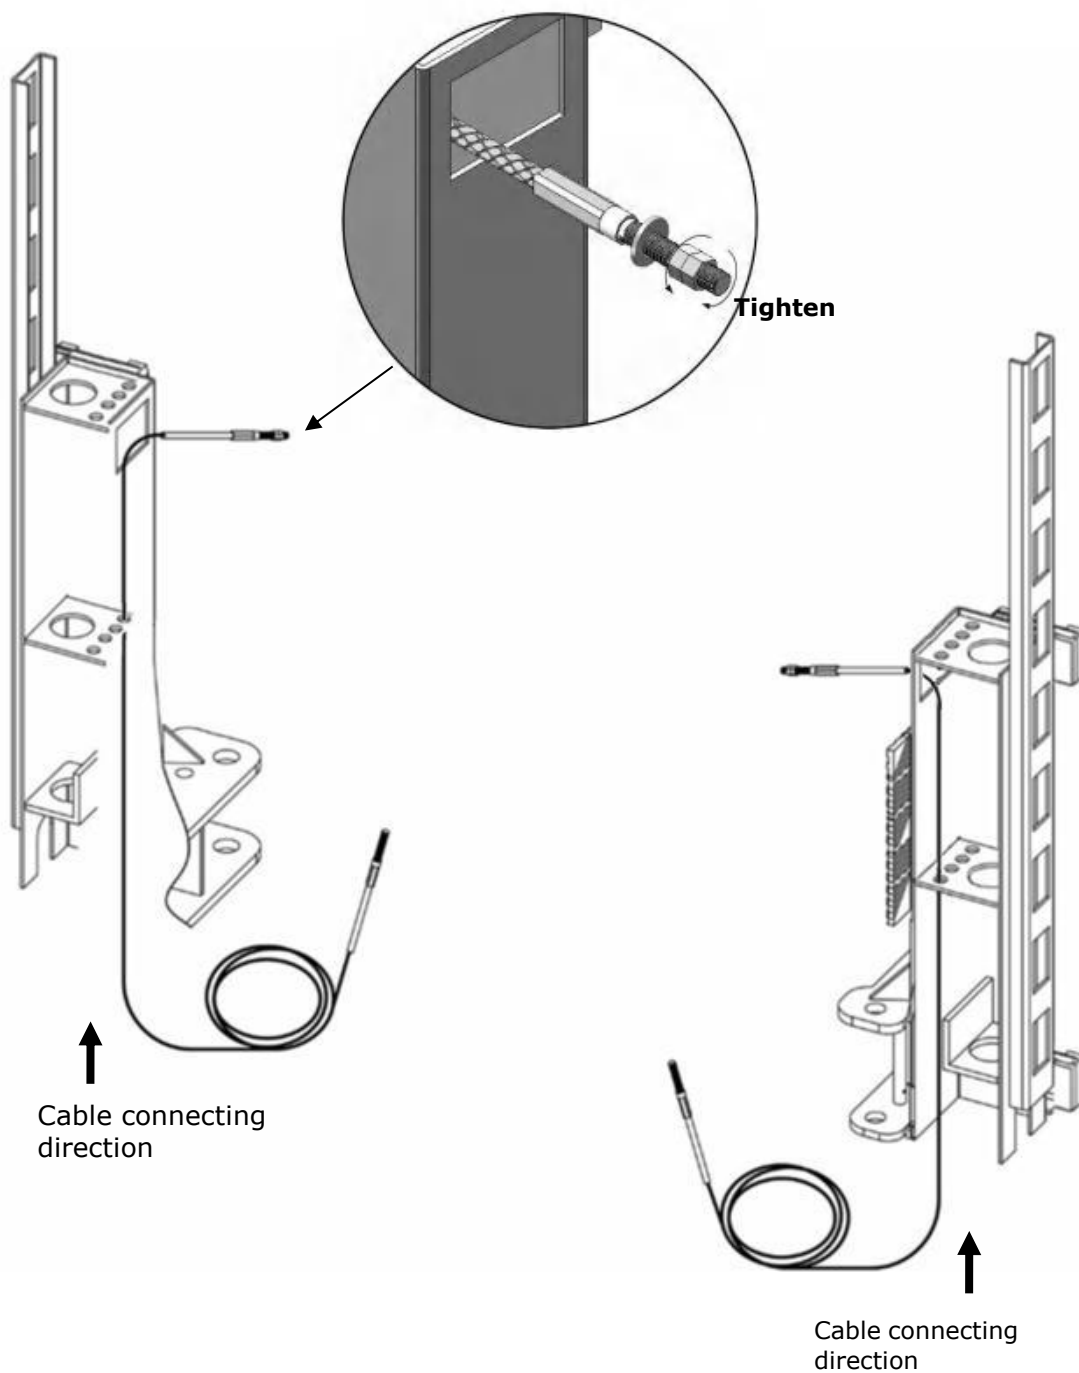

Fig. 28
- 1.1 Remove the carriages plastic cover, sync cable across from the bottom of the carriages and pull it out from the hole of carriage, then tighten two cable nuts. (See Fig. 28)